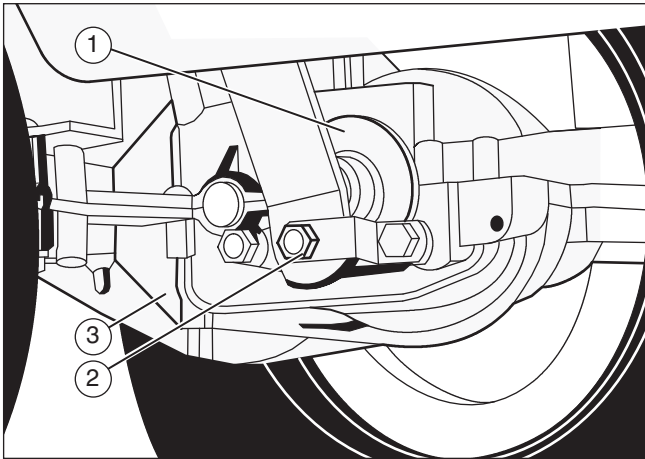

Figure 12
1. The location of the drive brake (1) is on the right side of the gearbox (3) (see Figure 12).
2. Make sure the parking brake is set and the shift lever is in neutral (N). Turn the hex nut (2) in a clockwise direction until the rear wheels do not turn when the unit is pushed forward.
3. Release the parking brake and push the unit. If the unit does not roll, turn the hex nut (2) in a counter-clockwise direction until the unit rolls.
4. Set the parking brake. Push the unit. If the rear wheels do not turn, the drive brake (1) is correctly adjusted. Release the parking brake.